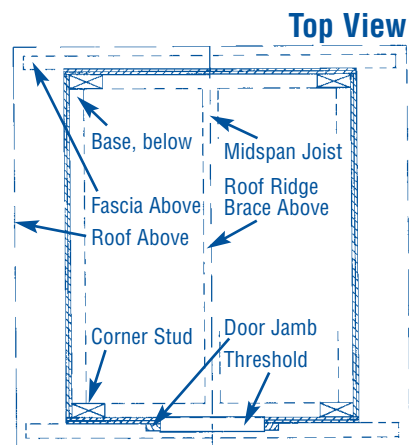

Fig. 3
2. Nail base boards together, lapping front and rear over sides. Add a central joist at midspan (shown as dashed line on Fig. 3).